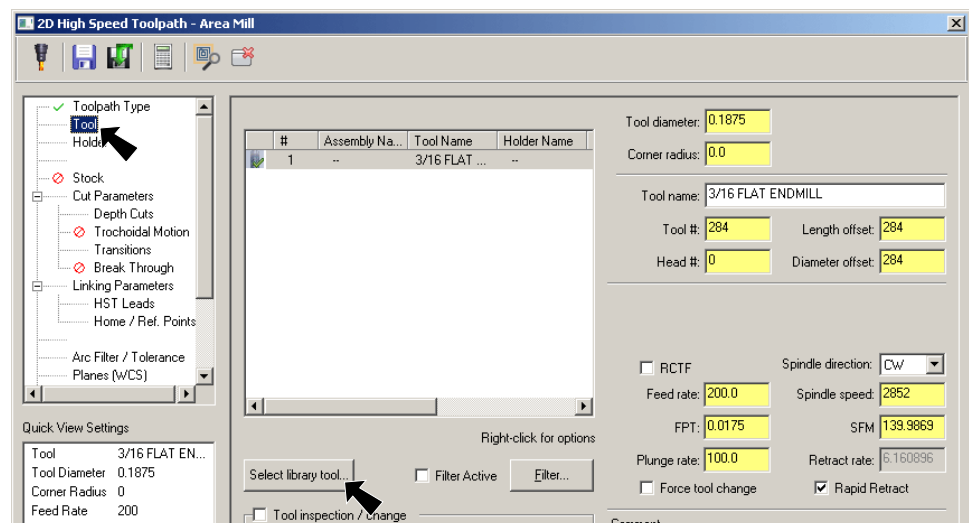

Fig. 51
Step 5. Select **Tool** from tree control and click **Select library tool** **Fig. 51**.